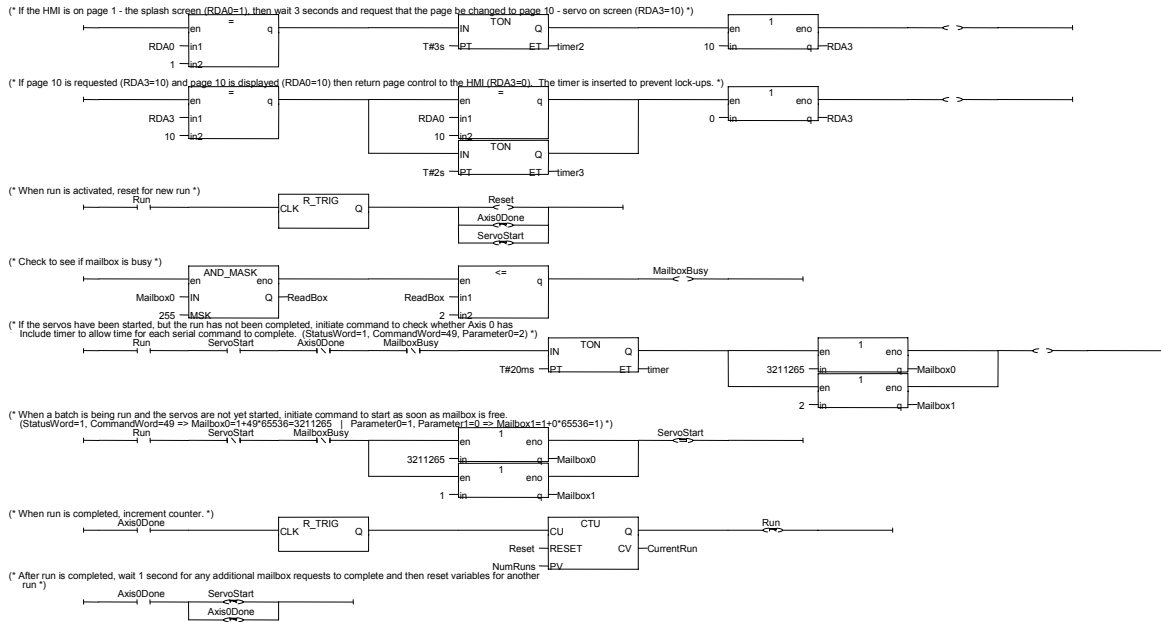

Figure 2. – PLC Ladder Code for HMI for Sigma II Indexer Command Demo
- A sample application using the Yaskawa Commander (EXOR) HMI-G4X20M-31 with the internal PLC was created. The files can be found at Yaskawa’s ftp site <ftp://ftp.yaskawa.com/public/development/servo/indexer/hmi>. The Designer file, NS600HMI.prj, was used for programming the HMI. The ISaGRAF Workbench folder, NS600HMI, contains the project used for programming the internal PLC. A printout of the PLC code used is provided in figure 2 as an example.